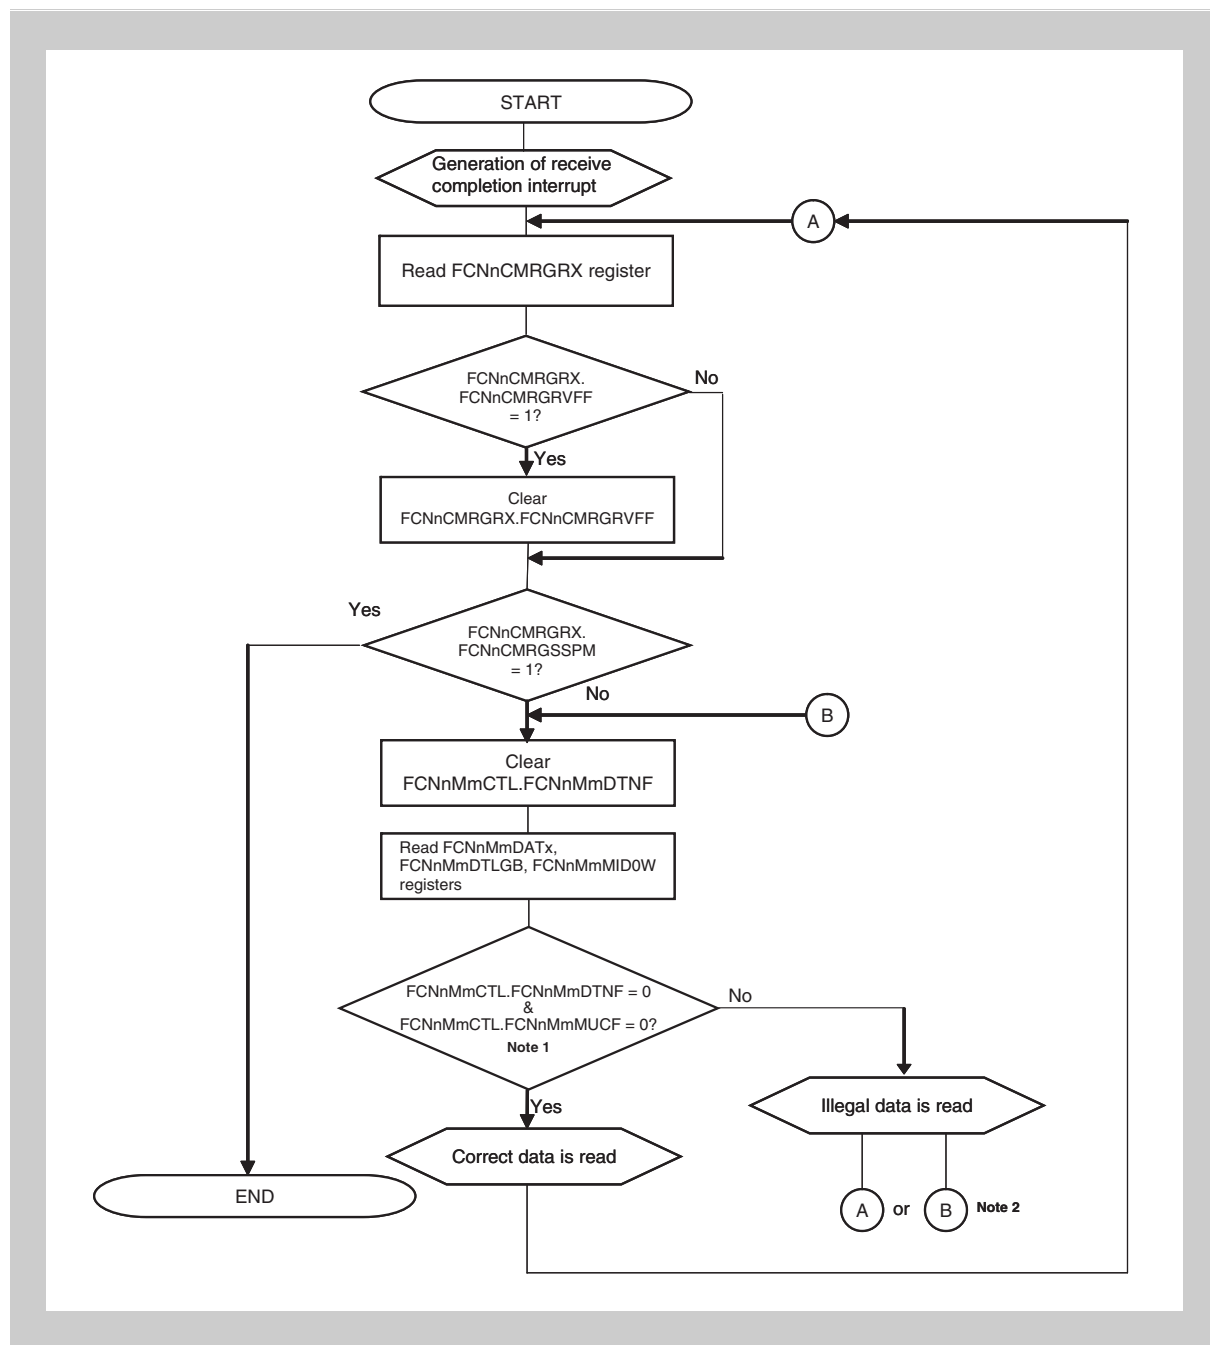
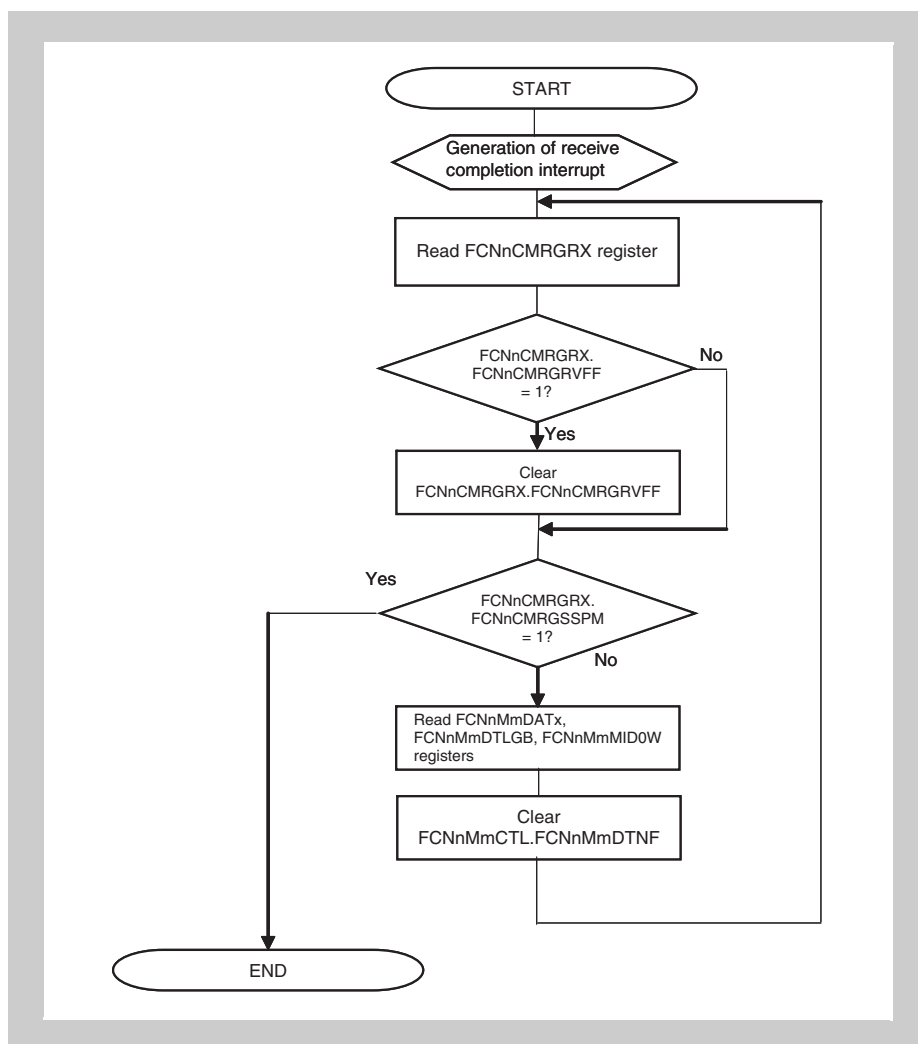

Figure 24-32 Reception via interrupt (using FCNnCMRGRX register)
Figure 24-33 Reception via interrupt (using FCNnCMRGRX register), alternative way
5. For the processing shown in *Figure 24-32 “Reception via interrupt (using FCNnCMRGRX register)”*, the processing shown in *Figure 24-33 “Reception via interrupt (using FCNnCMRGRX register), alternative way”* can be used alternatively.